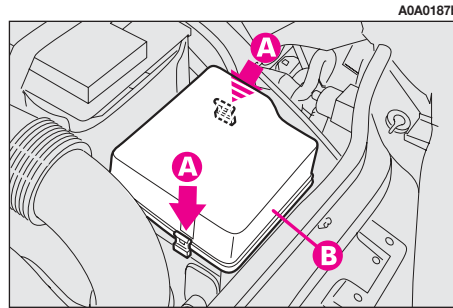

fig. 51
Access is gained to the control box next to the battery releasing the perimetral catches (A-fig. 51) and removing the protective cover (B).